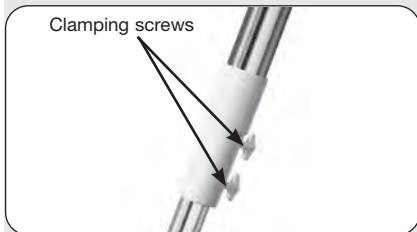

Fig. 12: Adjusting the height of the tripod legs and tightening the clamping screws.
14. Adjusting the tripod height: Adjust the tripod by loosening the screws (Fig. 12) on the tripod legs. Then pull the inner tripod legs to the desired length. Then tighten the screws again. Adjust the tripod to a height that makes observing as comfortable as possible.